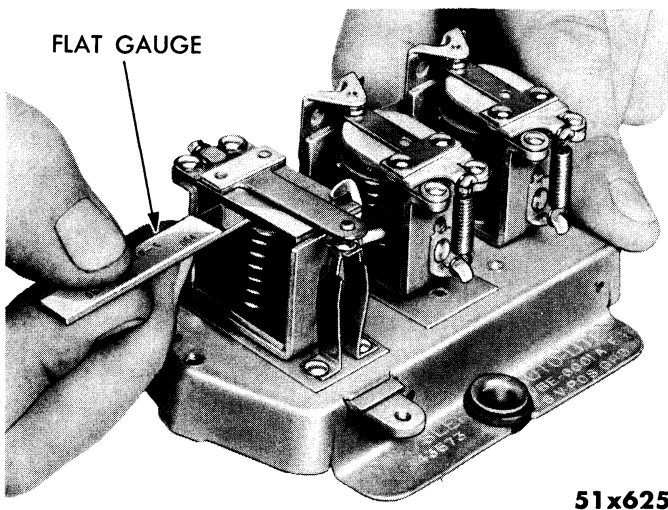

Figure 18—Checking Circuit Breaker Air Gap
4. **CHECKING CIRCUIT BREAKER AIR GAP**—Use the flat gauge (from Kit C-828) which measures from .031 to .034 inch. Insert the gauge between the armature and magnet core. See Figure 18. Place the gauge as near to the hinge as possible.